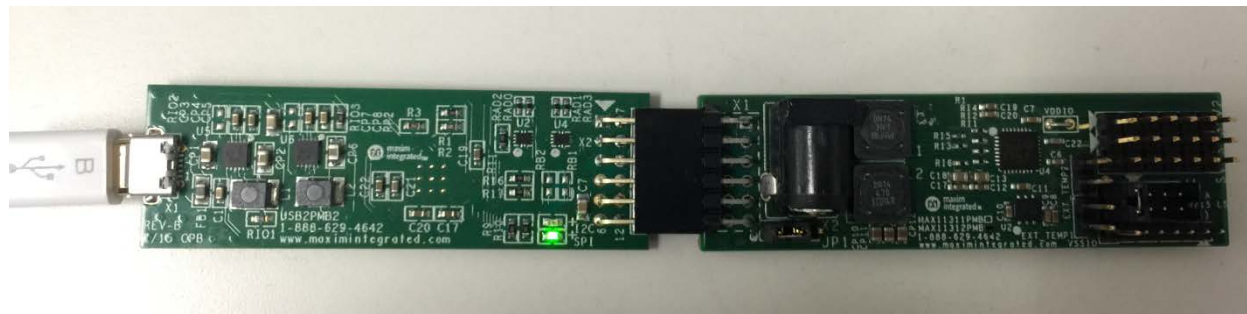

Figure 16. MAX1132PMB# /Munich2 connected to a PC through a USB cable.
1. Ensure the Munich board is connected to the MAX1132PMB# board and the USB is connected to a PC through a USB Type A to Micro B Cable as shown in **Figure 16**.